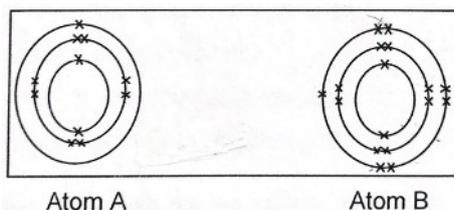

Figure S1
6. The Figure S1 below represents an electron configuration for 2 types of element.